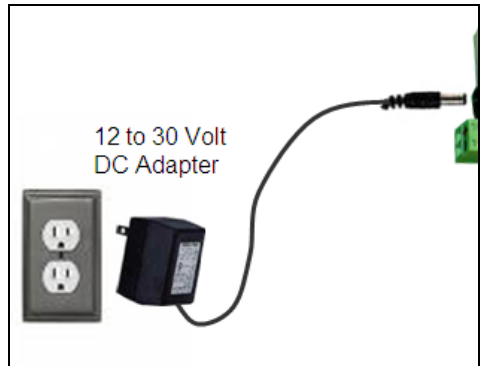

Figure 1 Wall Adapter Power Supply
- (1) Use an AC wall adapter to 12 volts as shown below in Figure 1 Wall Adapter Power Supply.
- (2) Connect the power input cable to a battery that is 12V or 25V .